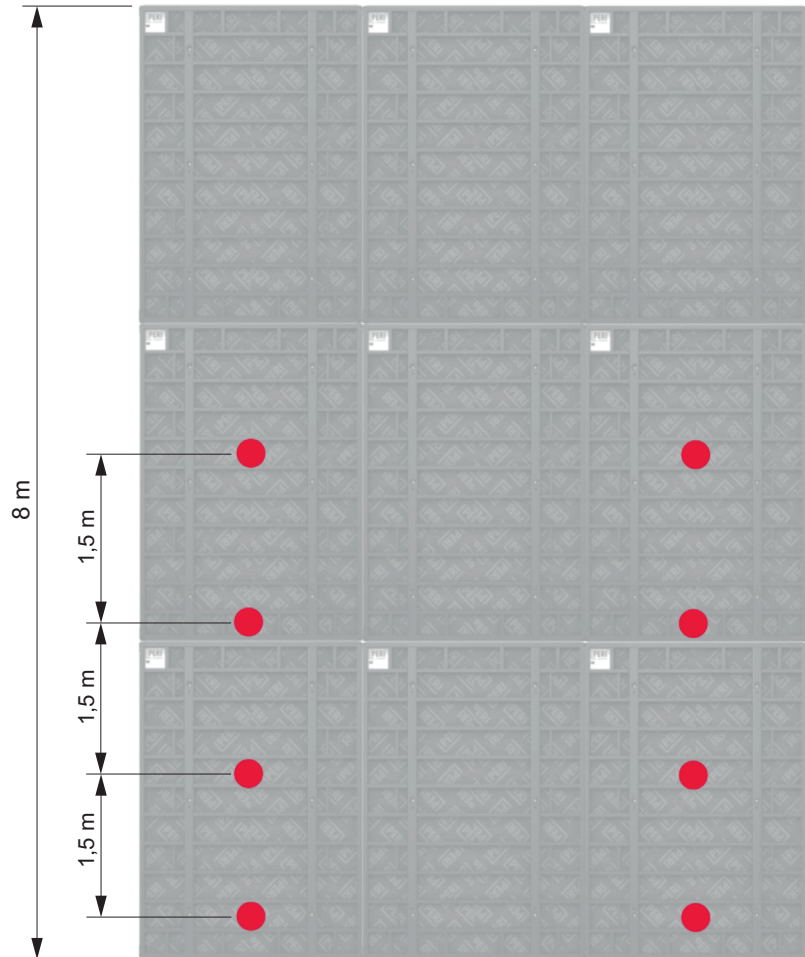

Fig. 08 Example of positioning of sensors in the formwork
1. Determine and mark the positions of the sensors. (Fig. 08)